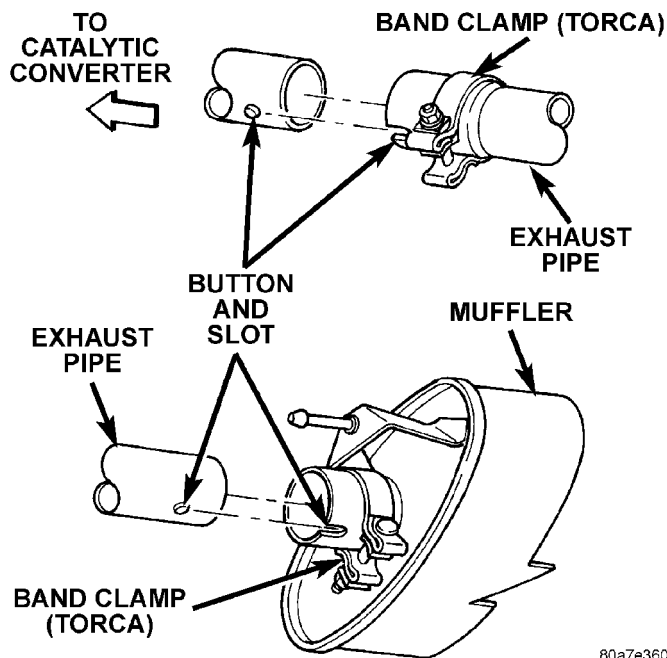

Fig. 5 Slip Joint Connection
(1) Raise vehicle on hoist and apply penetrating oil to band clamp fastener of component being removed (Fig. 5).